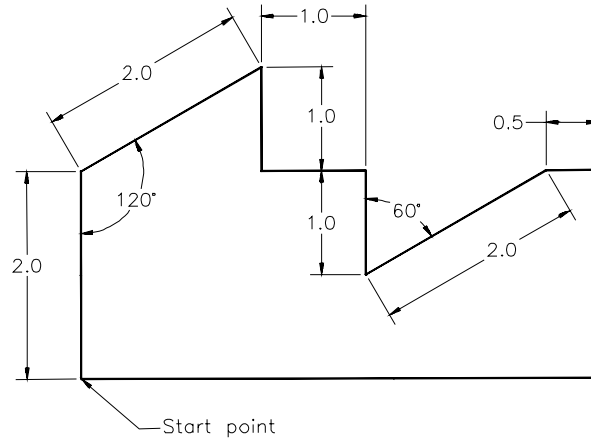

Figure 2-47 Drawing for Example 5
In this example, you will set the units for a drawing according to the following specifications and then draw Figure 2-47. You also need to do the following.
- Set the direction to 90-degree (north) and the direction of measurement of angles to clockwise (angles measured positive in clockwise direction), Figure 2-47.
6. With the units set, draw Figure 2-47 using the relative polar coordinates. Here the units are fractional and the **angles are measured from north** (90-degree axis). Also, the angles are measured as positive in the clockwise direction and negative in the counterclockwise